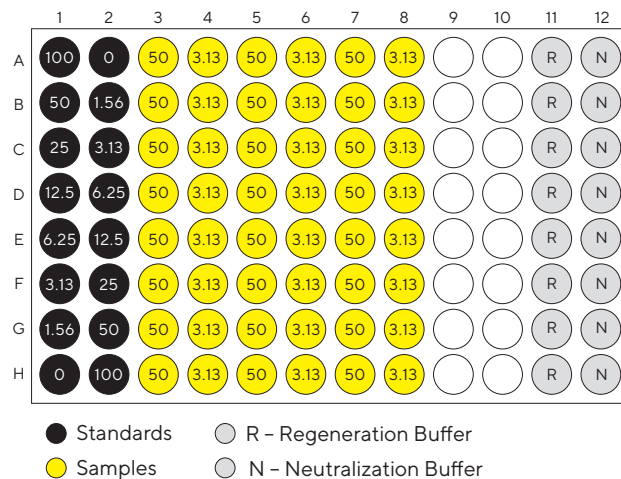

Figure 5: Sample plate layout for intra-plate precision testing.
- 12.1.1 Prepare a sample plate following the plate map as shown in Figure 5.